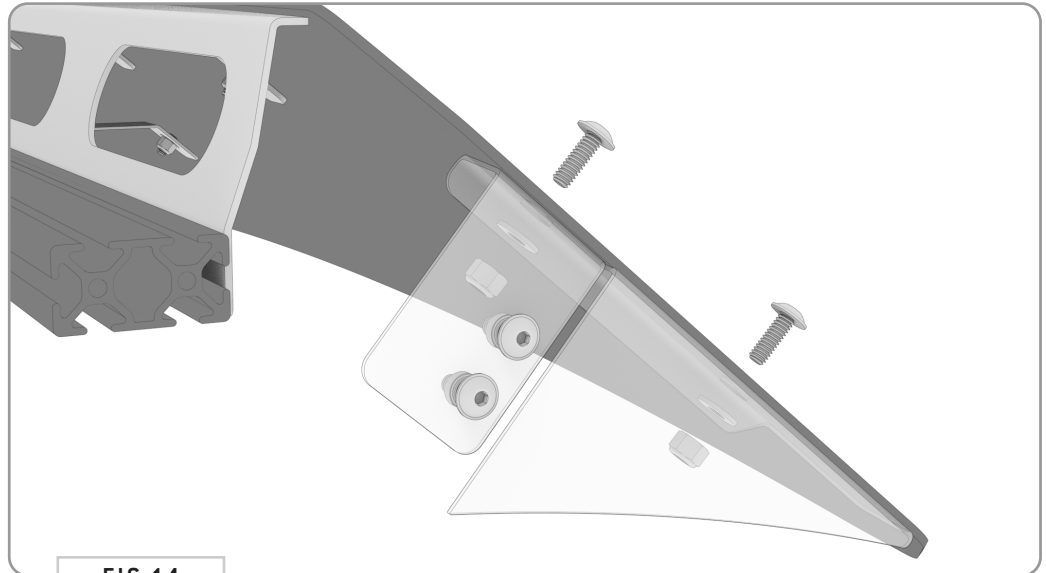

FIG 14
**4.6 Driver and Passenger Side Fairing Brackets:** Attach the **Driver and Passenger Side Fairing Brackets** to the Assembly using **1/4-20 x 0.75 Flanged Button Head Screws, Flat Washers and Nylon Locknuts (FIG 14)**.